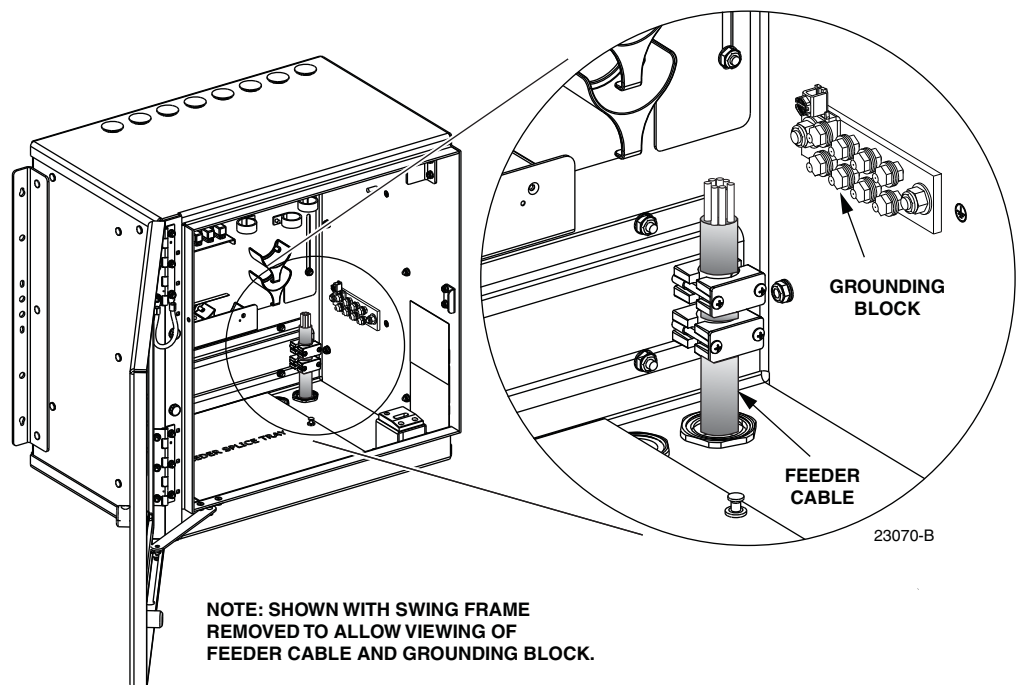

Figure 32. Location of Cable Grounding Block
1. Route the cable grounding wire to the grounding block as shown in Figure 32.